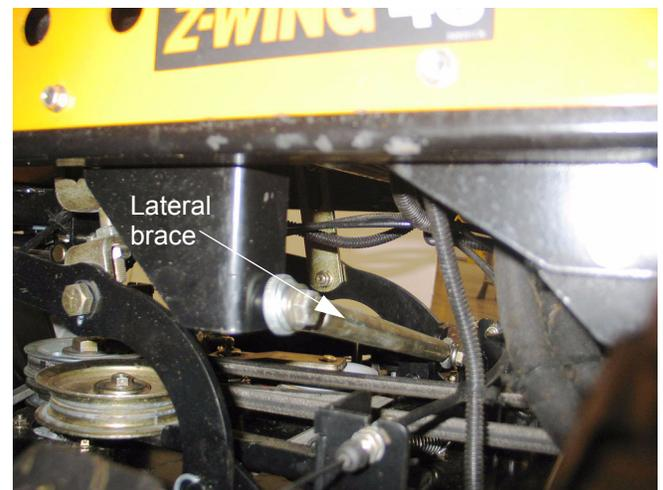

Figure 9.10
- 9.10. **Lateral brace adjustment:** See Figure 9.10.